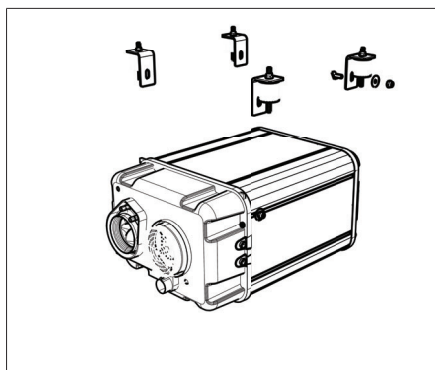

Fig. 10
- Secure the heater in such a way that it will not become detached from the vehicle in case the vibration dampers fail. A basic application possibility for securing the Dual Top ST (see Fig. 10) is included in the scope of delivery.